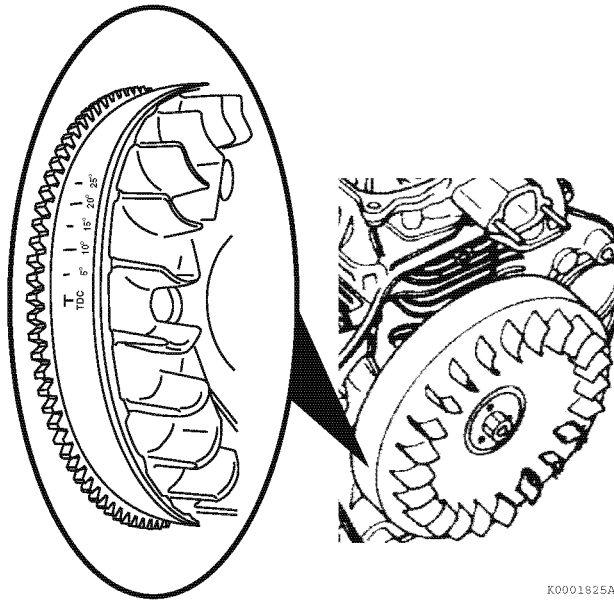

Figure 6-29
6. Rotate the flywheel to position the existing TDC mark at approximately 90° bTDC (**Figure 6-29**).
14. The mid point (2, **Figure 6-32**) (divide the distance by 2) of the distance measured is the new TDC cooling fin mark. Use a scribe or fine point marker to mark this position on the cooling fin as the new true piston TDC. **Figure 6-29** illustrates an example.